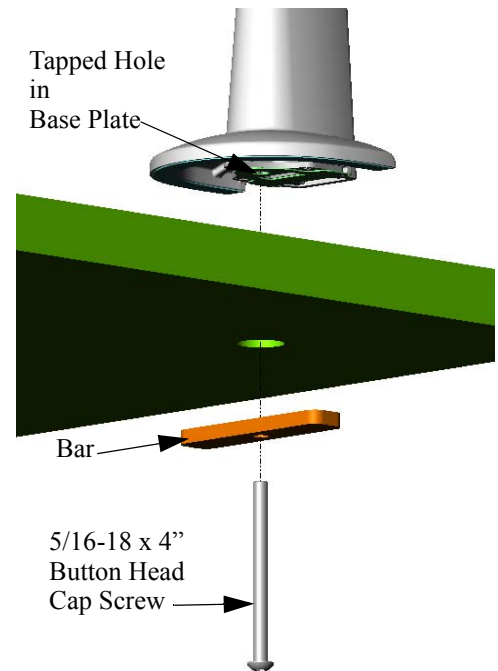

Figure 8. Secure using Bar
5. Secure the bar, with the 5/16-18 x 4" button head cap screw under the work surface, to the tapped center hole of the base bracket in the desk clamp (see Figure 8).